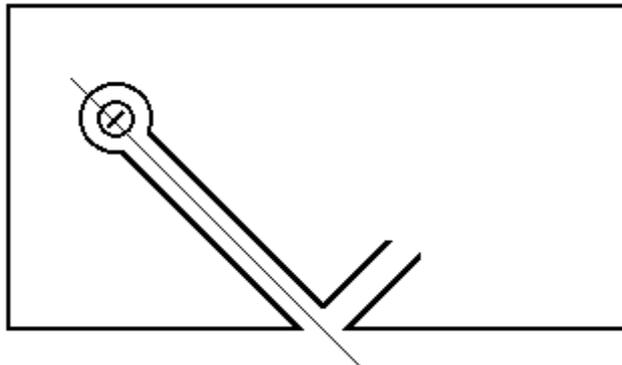

Fig. 7.3.2. Perpendicular filament alignment.
3. Fit the new bulb, aligning it so that the filament is perpendicular to the angle at which the beam will be directed (fig. 7.3.2).